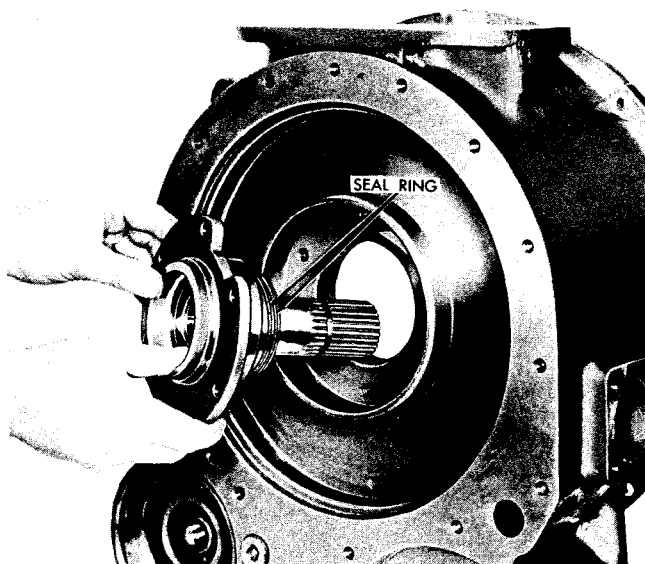

Fig VIII-3. Removing or installing converter ground sleeve
(2) Loosen the converter ground sleeve by tapping against the shaft end. Remove the sleeve (fig VIII-3). Remove the two hook-type seal rings from the ground sleeve.
(2) Install the converter ground sleeve (fig VIII-3). Tap the sleeve into position. Be sure to align the holes and the oil passage on the flange of the ground sleeve.